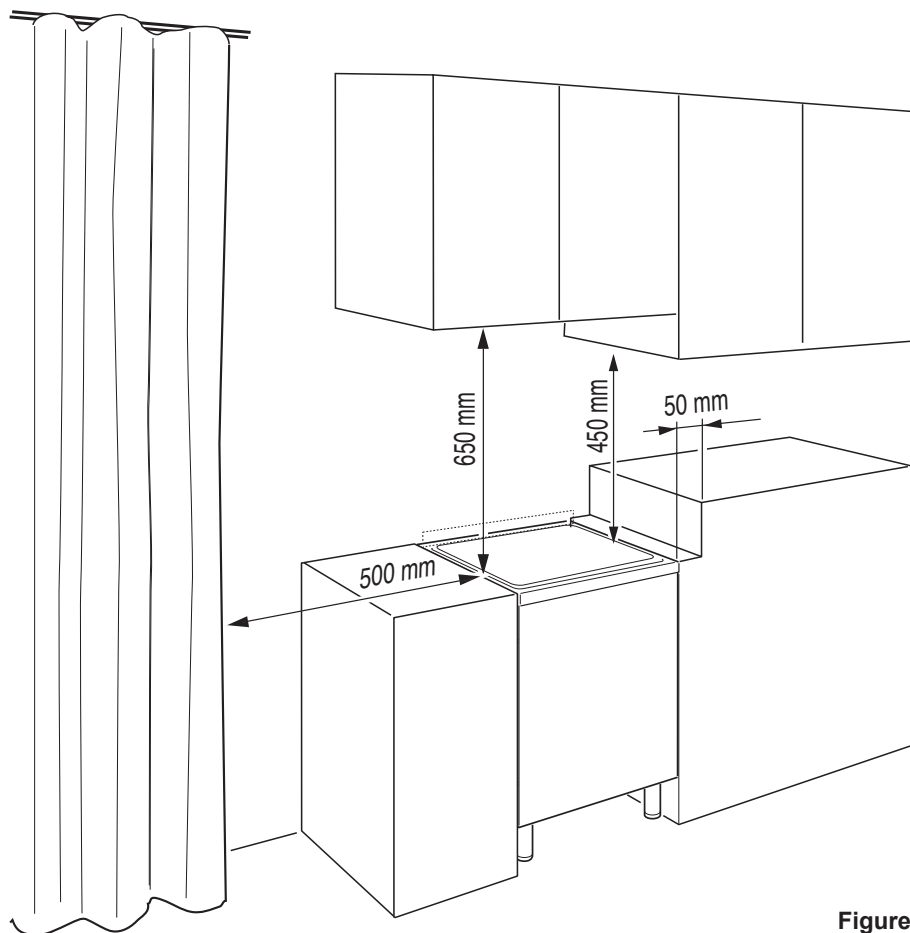

Figure 1
- The cooker can be installed in a cabinet (Fig. 1).